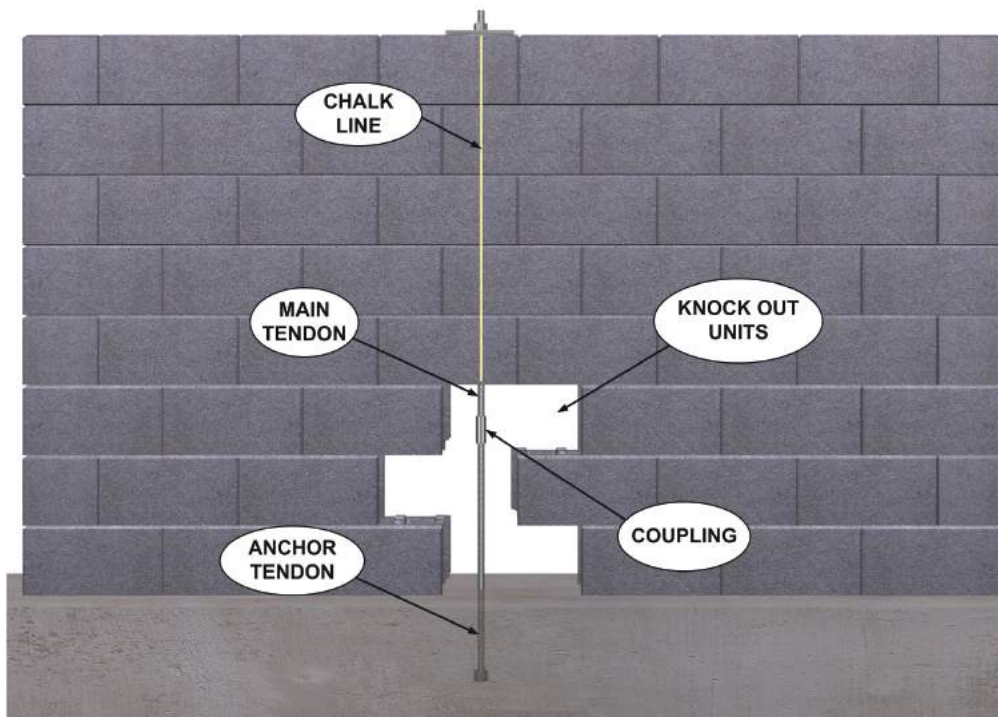

Fig. 5.28
3. At the bottom of the wall, knock out the units of the first three to five courses revealing the failed tendon (*Fig 5.28*).